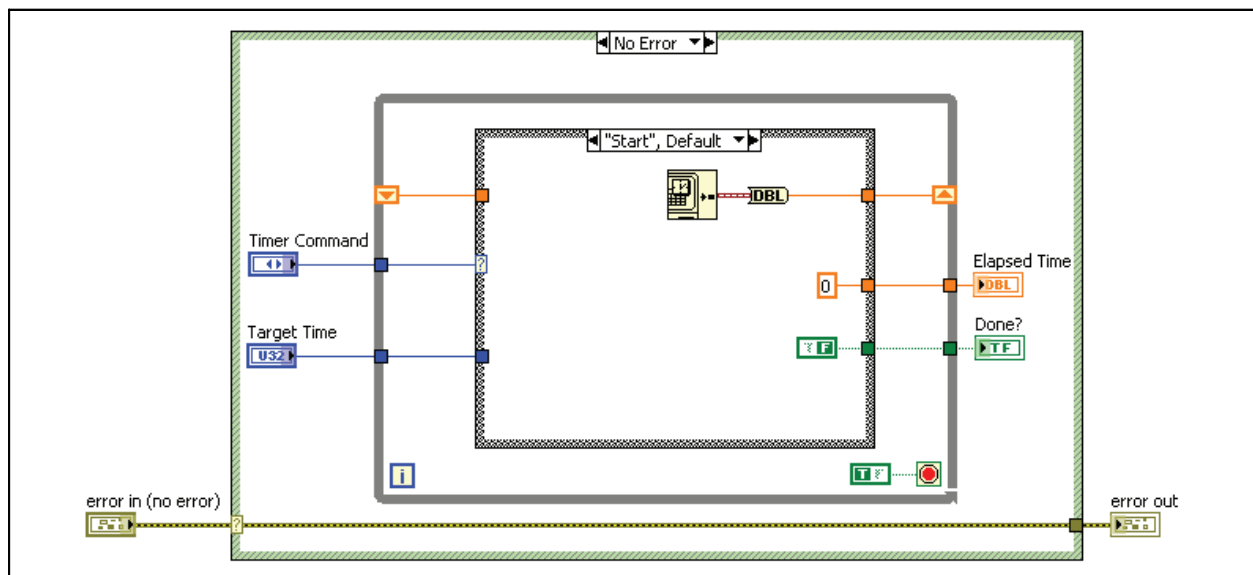

Figure 6-9. Timing Module Start Case
4. Modify the Start case to store the start time of the VI, as shown in Figure 6-9. Use the following items: